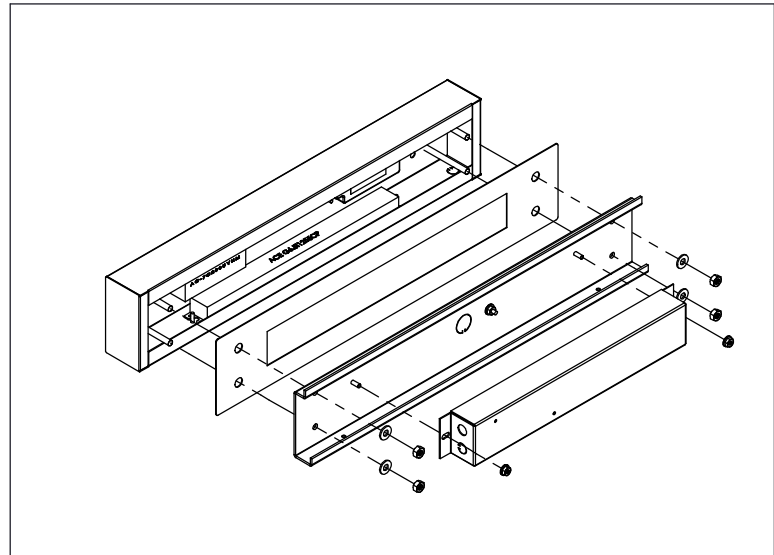

Figure 2
2. Remove Wireway Cover from Mounting Plate, then remove Mounting Plate from the Back Box and Back Box Cover Plate (Fig. 2).